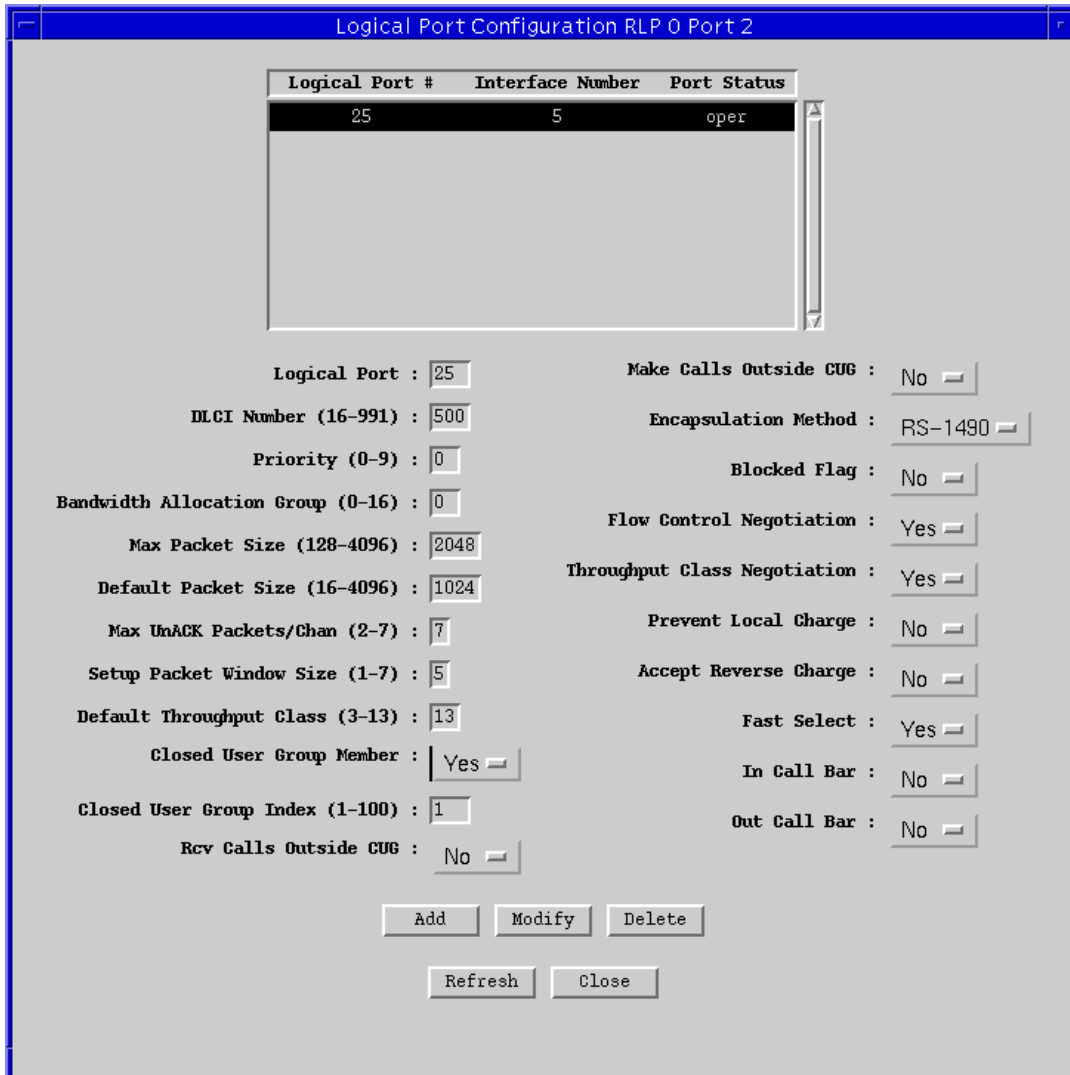

Figure 5-4. Logical Port Configuration
2. Drag down to **Logical Port Configuration**, and release. The Logical Port Configuration window, Figure 5-4, will appear.